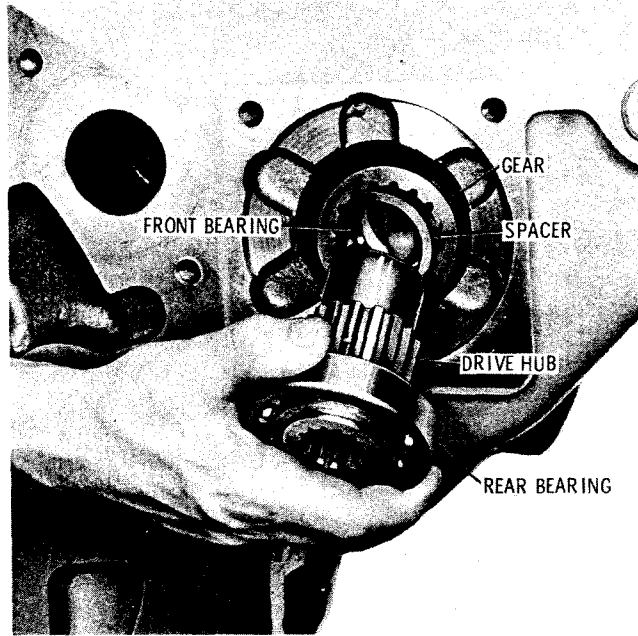

Fig. 7-32. Installing pump drive components
(3) Install the rear ball bearing onto the shorter unsplined end of the pump drive hub (fig. 7-32). Aline the drive gear and spacer with the front ball bearing and install the hub and rear ball bearing. Tap the drive hub forward until it seats against the spacer.